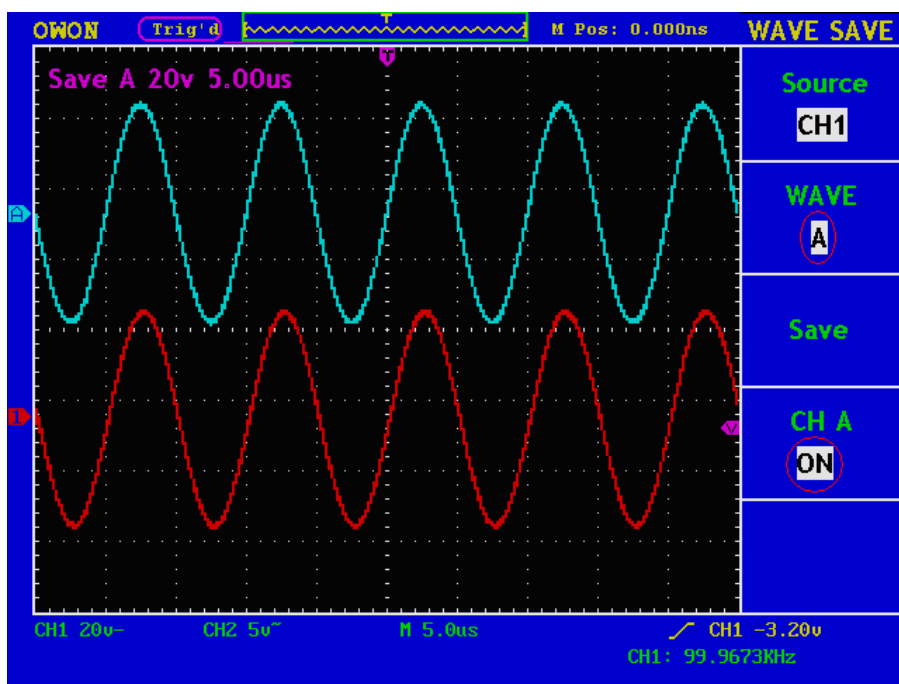

Fig.5-38 Wave Saving
4. Press the **F4** menu selection button and choose **ON** for CH A. The stored wave form A will be displayed in the screen. The voltage level and time base level will also be shown at the upper left corner of the display area at the same time (see Fig.5-38).